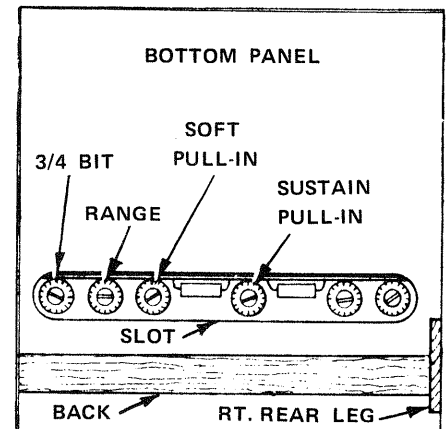

FIGURE 9-52 SOFT PULL-IN Control location.
- Q. If the Solenoid creates noise (and may throw the Hammers against the Strings) when it actuates, the the SOFT Pull-in Control may be set too high. To adjust the Pull-in Control (See FIGURE 9-52), turn the Control COUNTERCLOCKWISE until the noise stops. If this corrects the problem, proceed to Point 'X' on page 152. If the Solenoid stops operating or functions erratically before the problem is cured, return the Control to the point where the Solenoid operates normally. (See the CAUTION BELOW), and proceed to Point 'P' on page 150.